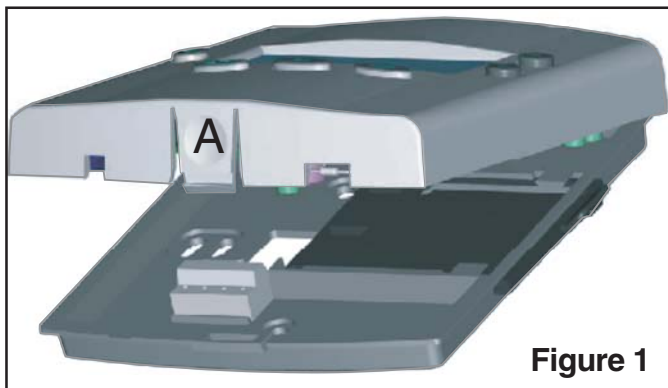

Figure 1
3. Separate the control from the mounting base to expose mounting holes by pressing the release button A on the bottom of the control and lift out and up. See Figure 1.
11. Reinstall the control on its mounting base by aligning the control at the top of the mounting base. Swing the control downward and gently press the bottom of control into position until latch button A engages. See Figure 1.